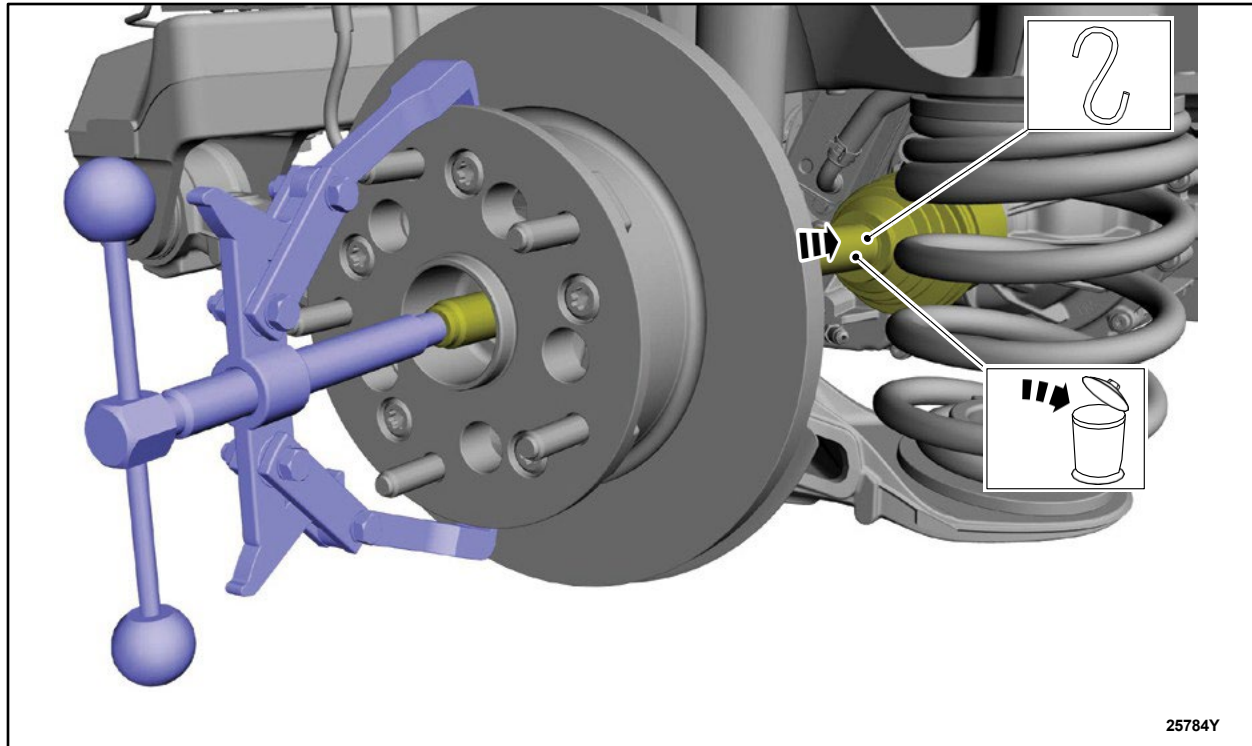

FIGURE 24
29. Support the halfshaft, then using a 2-leg puller, separate the wheel hub and brake disc assembly from the halfshaft. See Figure 24.